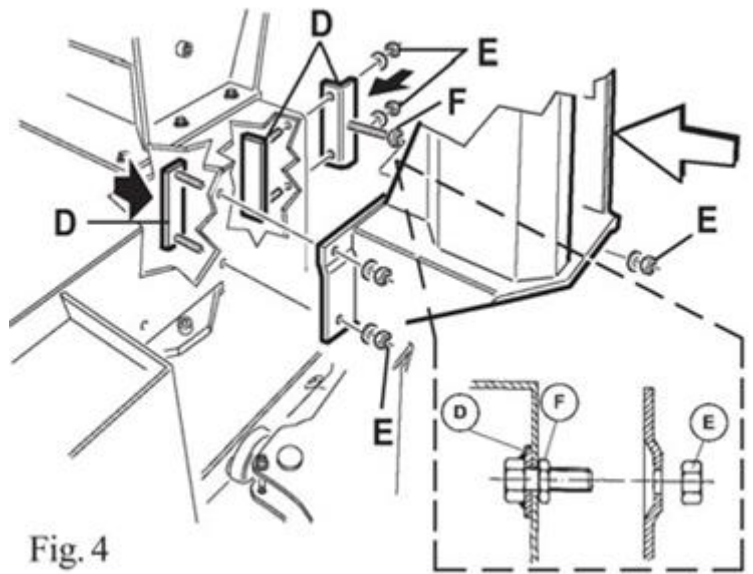

Fig. 4
- Set the RF SYSTEM support plates (D) in relevant holes and fix them by means of nuts M10 (fig. 4).
- Mount RF SYSTEM onto the supports and fix it by means of nuts M10 (E).